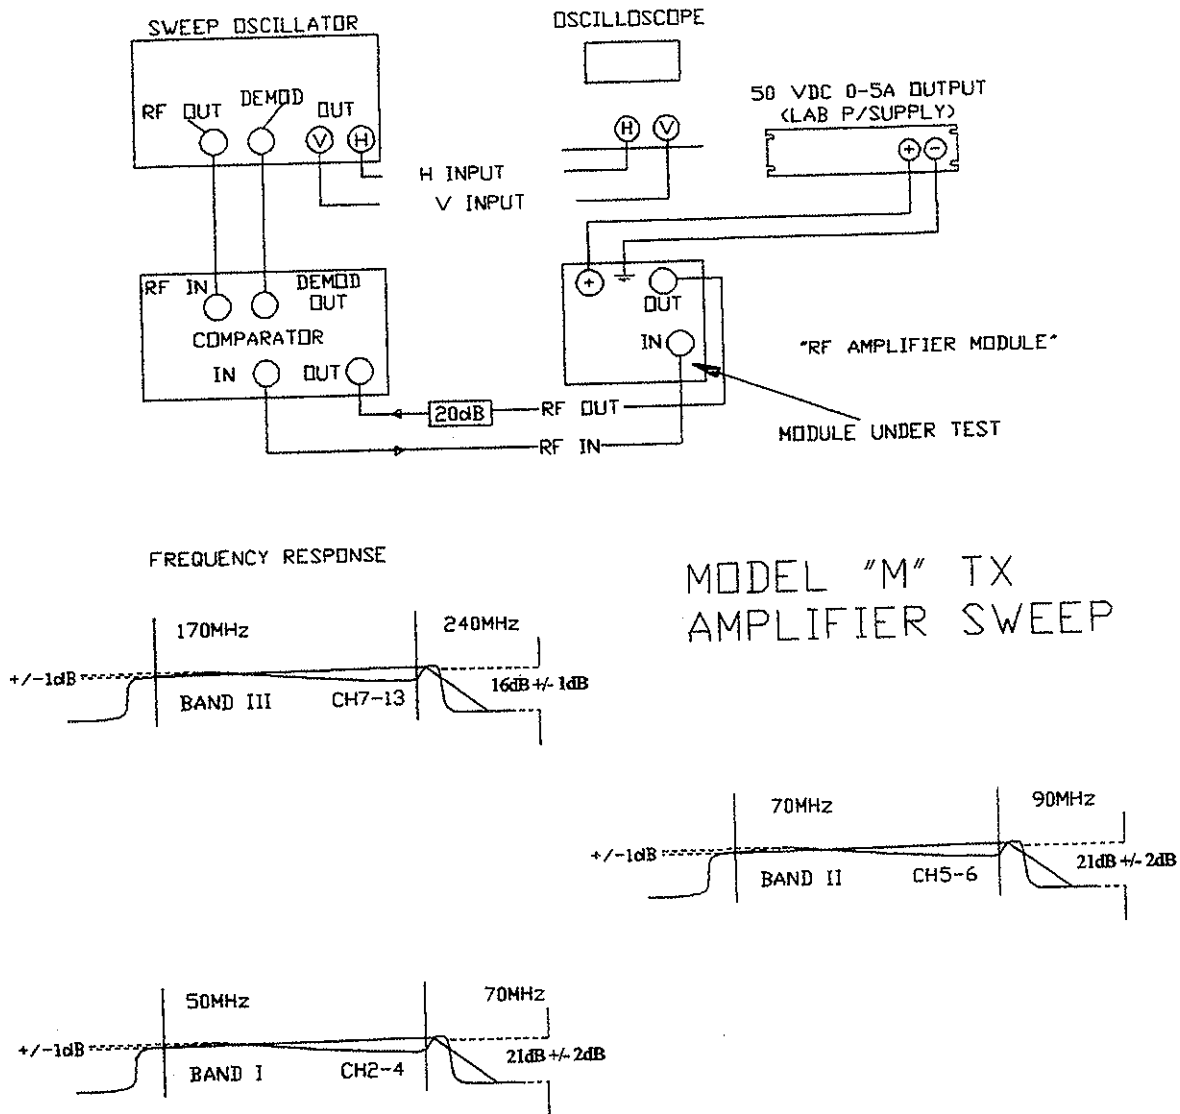

Figure 1: Module Sweep Response.
1. Connect the module to a sweep system, typically as shown in Figure 1 (page 6). The sweep generator should be adjusted to give a linear sweep from 160 to 240 MHz so that all of High Band or Band III is swept, with a small amount of out-of-band signal on both ends.
The swept in-band frequency response for all modules, should be essentially flat within \pm 1 dB as indicated in Figure 1, with PA module gain approximately 15 to 16 dB despite the error in Figure 1 which indicates sweep amplitude of 20 dB. We apologize; 16 \pm 1 dB is the correct amount.